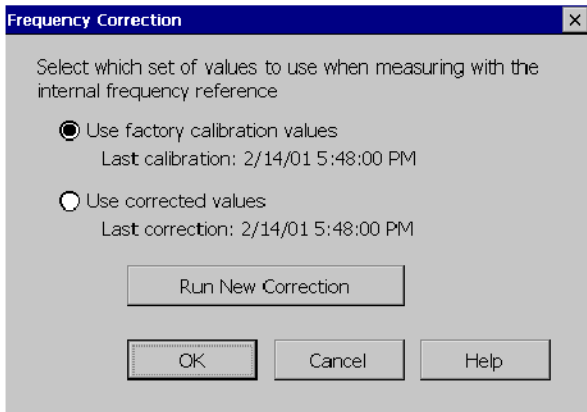

Figure 2-12: The Frequency Correction dialog
6. Tap **Close**. This displays the initial frequency correction dialog shown in Figure 2-12.